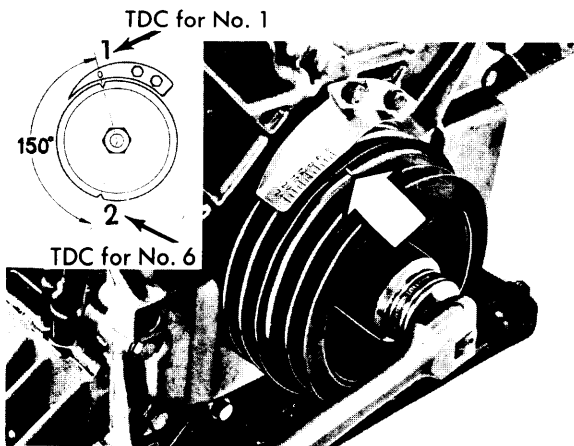
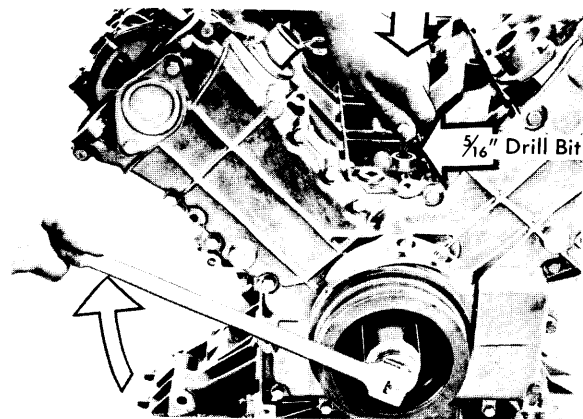

Fig. 5 Adjusting Crankshaft to Firing Position for No. 1 Cylinder
Fig. 12 Locating Top Dead Center for No. 1 Cylinder
1) Rotate crankshaft to firing position for No. 1 cylinder. See Fig. 5. In this position, both rocker arms should have clearance. Check and adjust the following cylinders for clearance: Intake
1) Rotate crankshaft so that mark No. 1 (See Fig. 5) is at 20° mark on ignition timing plate. Remove plug and insert 5/16" drill bit or similar rod into hole and against crankshaft counterweight, See Fig. 12. Rotate crankshaft in direction of rotation until drill bit can be pressed into recess in counterweight (TDC for No. 1 cylinder).